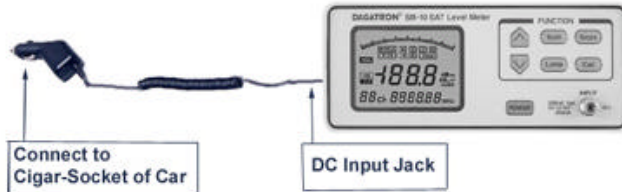

Fig 4-2 Charging by power from Cigar-Socket of car
4.2.2 Charging by power from Cigar-Socket of car (Figure 4-2)